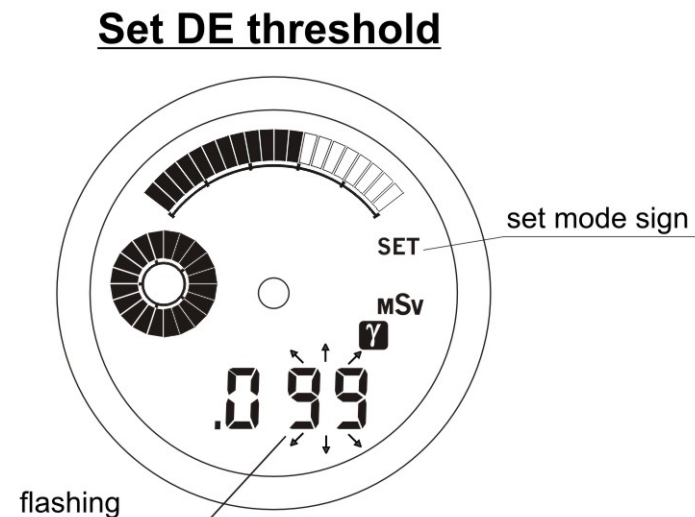

Fig.3.11
3.2.8.4 To set the DE threshold enter the DE indication mode according to clause 3.2.2. Long pressing of button 2 (SELECT) switches on the indication of preset DE threshold on LCD; the two digits (hundredths and thousandths of mSv) will be flashing, the set mode sign **SET** will appear and the filled in circular analogue scale will be indicated (Fig. 3.11).